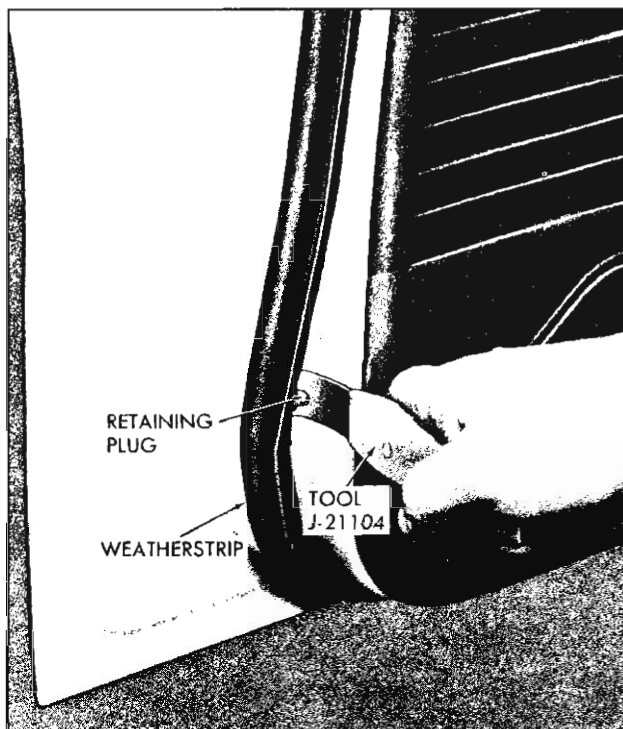

Fig. 20—Using Weatherstrip Removal Tool
3. Slide tool J-21104, or other suitable tool, under weatherstrip at a fastener location and grip fastener as close to door panel as possible. Then gently pry fastener out of its respective door piercing (fig. 20).
2. Slide tool J-21104, or other suitable tool, under weatherstrip at a fastener location and grip fastener as close to door panel as possible; then, gently pry fastener out of its respective door piercing (fig. 20).